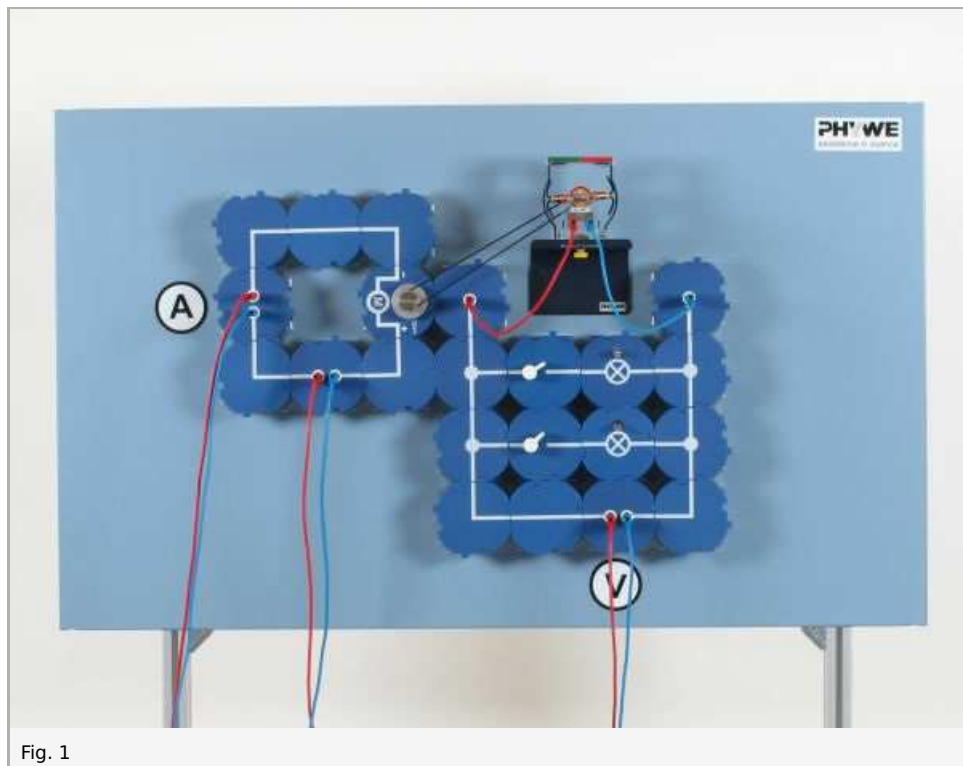

Fig. 1
- Set up the experiment as shown in Fig. 1 ; leave both switches open at first; select the 1 A- measurement range for the ADM 2 in the motor circuit, and the 3 V measurement range for the ADM 2 in the generator circuit
- Pay attention to the running noise of the generator when first switching on one lamp, and then both lamps (1) and note the measured values for  $U$  (at the power supply) and  $I$  in the motor circuit, as well as  $U$  in the generator circuit; enter the measured values in Table 1
- Switch on one lamp, and then both lamps (1) and increase the operating voltage of the motor until the generator generates 2.0 V; enter the measured values both when idling and under load in Table 1